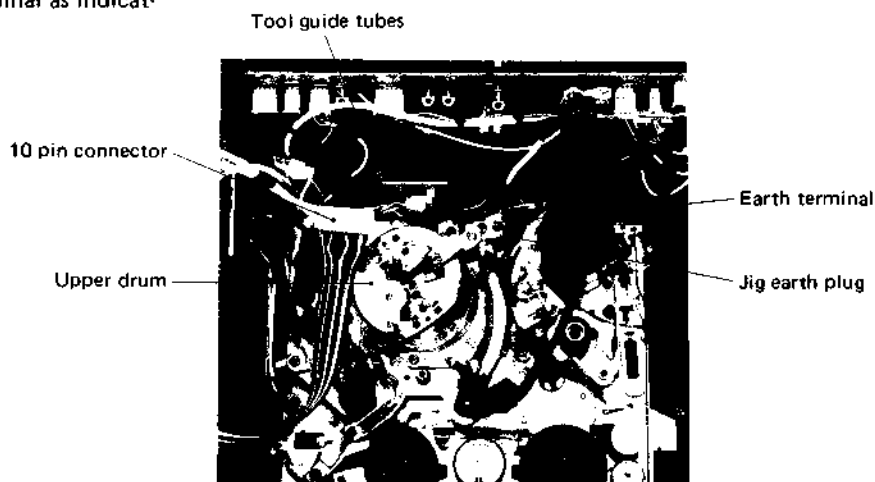

Fig. 5-1 Servo test points and tool guide tubes
2. Servo circuit test points are mainly formed by the 10 pin socket on the upper surface of the set (near the upper drum). Therefore connect the 10 pin plug of the SERVO TP JIG to this socket and the earth plug of the jig to the sub chassis earth terminal as indicated in Fig. 5-1.
1. Engage the 10 pin plug of the jig with the 10 pin socket of the set. Connect the earth plug of the jig to the sub chassis earth terminal as indicated in Fig. 5-1.